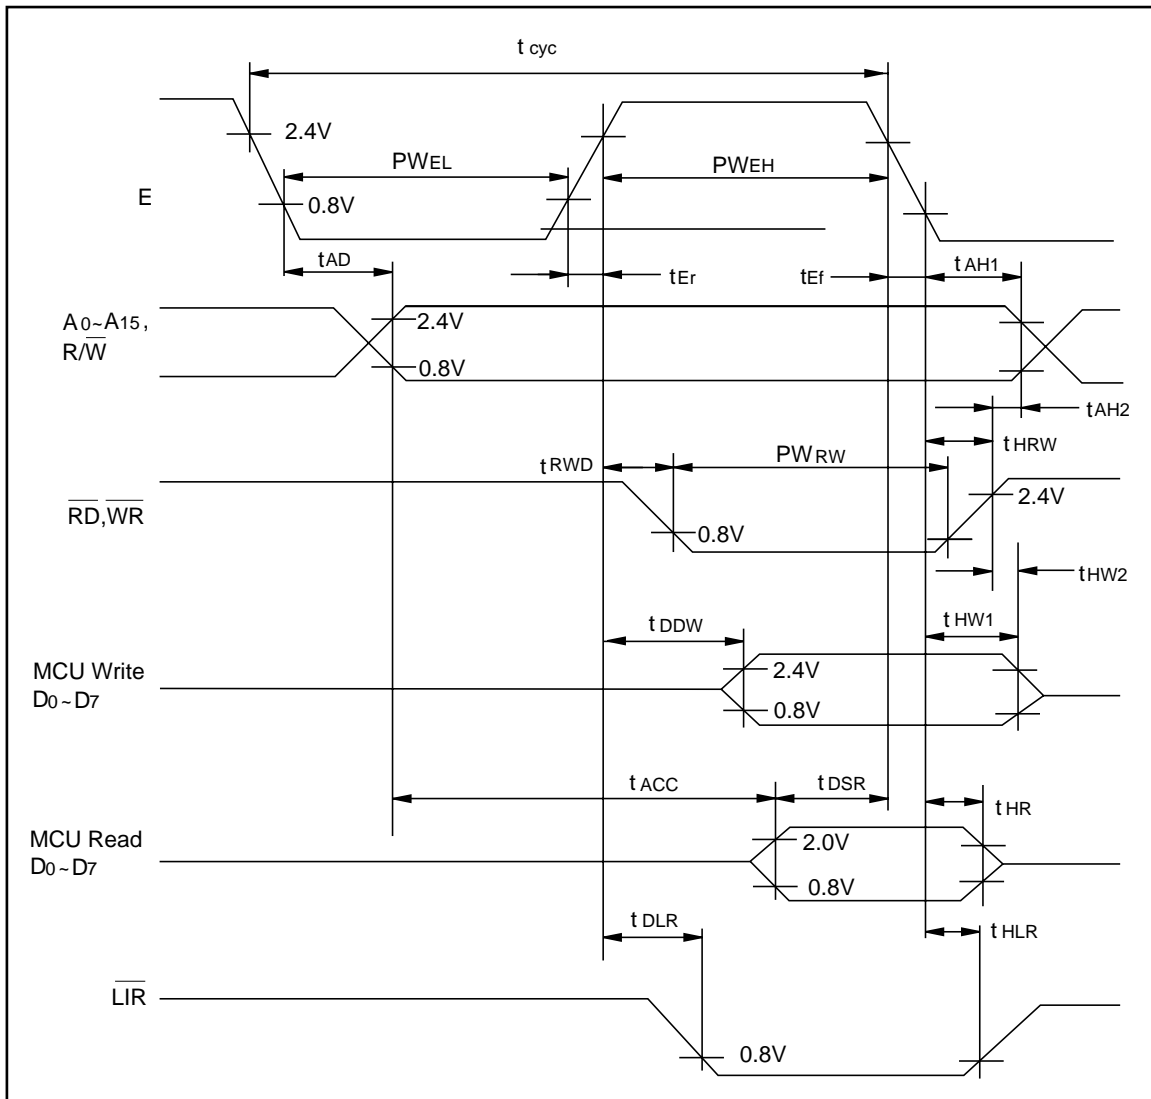

Figure 5-7. Microprocessor Timing
Figure 5-7 shows the timing relationships of the 6303Y Microprocessor lines LIR* and WR* to the system clock (E) and the address lines A0..A15. The ROM and NVRAM Chip Enables correspond to the active (low) region shown for the address lines.